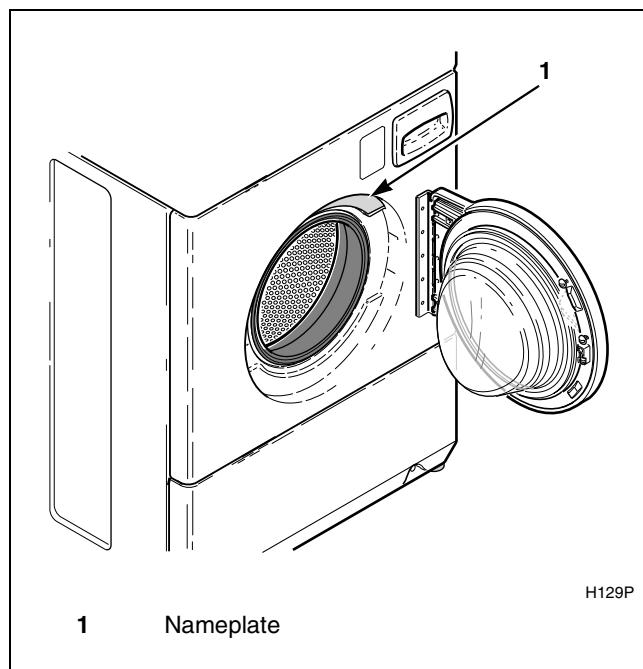

Figure 16
**NOTE:** Refer to the washer nameplate for proper voltage and Hertz the washer is designed to operate on. Refer to *Figure 16*.